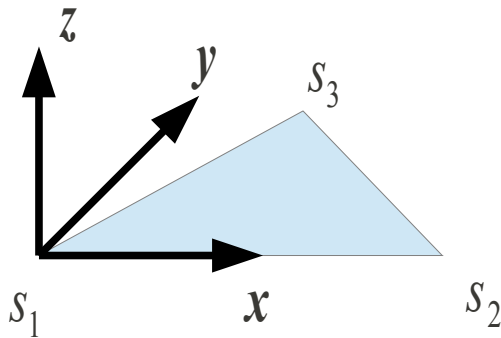

Figure 3.4-1: Intrinsic reference mark for a mesh of the type TRIA3
- For a triangle (cf. Figure 3.4-1) whose tops are numbered of s_1 with s_3 : it is the reference mark formed by $x=s_1s_2$, $y=z \wedge x$, $z=s_1s_2 \wedge s_1s_3$